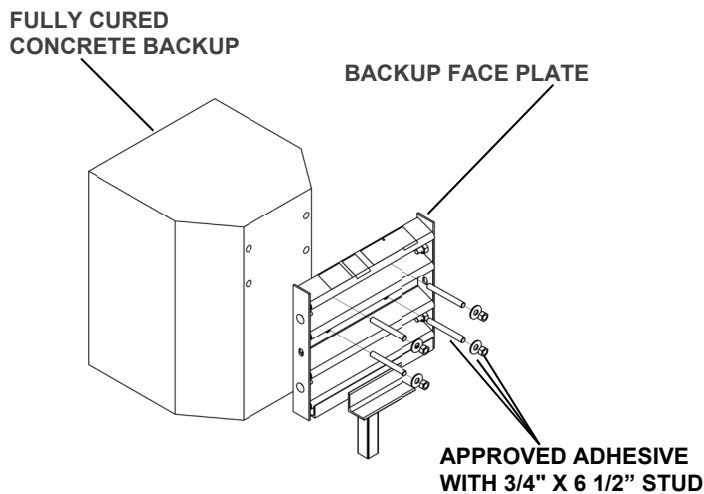

Figure 15
A) Concrete Backup (Figure 15)